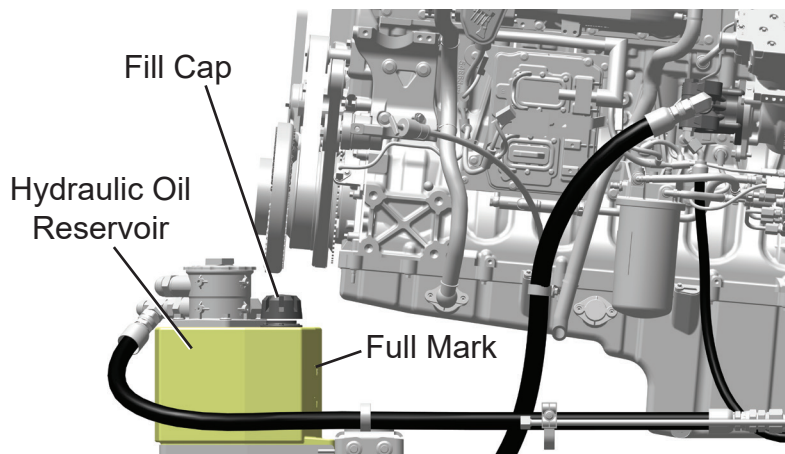

Figure 8
22. Remove hydraulic reservoir fill cap and fill reservoir to full mark with clean, new hydraulic oil, see Figure 8. Do not reinstall fill cap at this time.